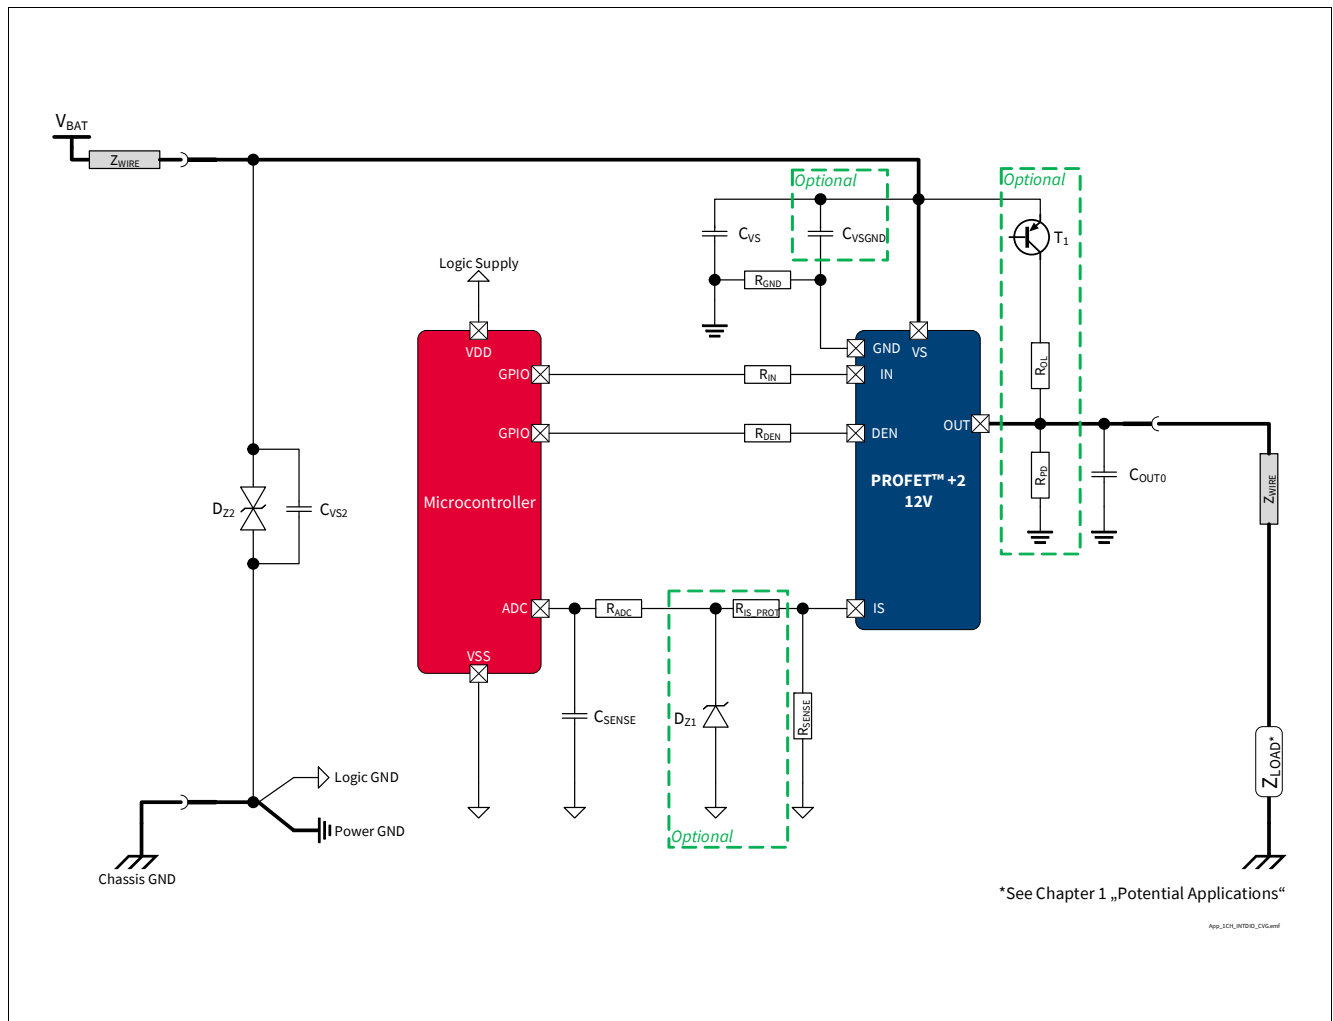

Figure 42 BTS7010-1EPA Application Diagram
1.02 , 2019-10-15	P_8.7.2.1, P_8.7.2.7, P_8.7.2.8 updated (added in Note or Test Condition: link to Figure 25) P_7.5.2.4, P_7.5.2.5 updated (added in Note or Test Condition: DEN = "low"; link to Figure 19) P_7.5.2.12 updated (added in Note or Test Condition: see Figure 21) P_8.7.2.6 updated (added in Note or Test Condition: see Figure 26) P_9.7.2.1 updated (added in Note or Test Condition: See Figure 34) P_9.7.2.6 updated (Min./Max.: -45%/+45% → -34.5%/+34.5%) P_9.7.2.9 updated (Min./Max.: -38%/+38% → -25.5%/+25.5%) P_9.7.2.12 updated (Min./Max.: -34%/+34% → -22.5%/+22.5%) P_9.7.2.15 updated (Min./Max.: -22%/+22% → -13.0%/+13.0%) P_9.7.2.17 updated (Min./Max.: -9%/+9% → -8.1%/+8.1%) P_9.7.2.19 updated (Min./Max.: -6%/+6% → -4.6%/+4.6%) P_9.7.2.21 updated (Min./Max.: -5%/+5% → -3.9%/+3.9%) P_7.5.2.11 updated (added in Note or Test Condition: see Figure 19) P_4.2.2.6 updated (Max.: 13.5 mJ → 17 mJ) Figure 1, Figure 42 updated Chapter 1 updated (or LED equivalent → or equivalent electronic loads (e.g. LED modules)) P_4.3.0.7 added Table 23 updated Chapter 5.1 updated (added: see Chapter 10 for the complete application setup overview)